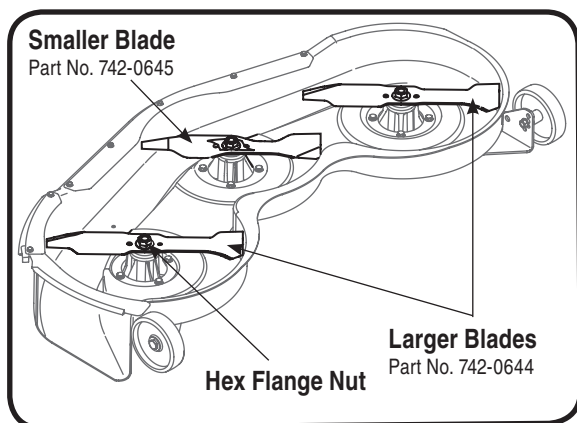

Figure 5-1
5. Mount the SMALLER of the three blades to the CENTER spindle. The remaining two blades are interchangeable. See Fig. 5-1.